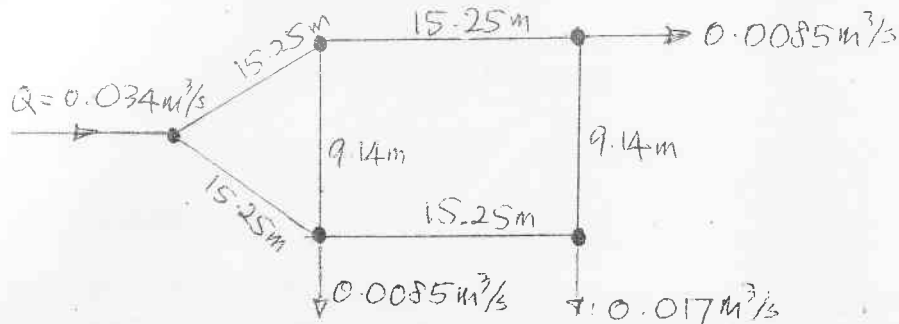

Fig T2.12
12. Find the flow rate of water in each pipe at Fig T2.12. All pipe are 65 mm diameter.